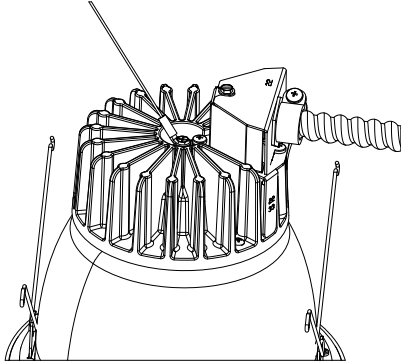

Figure 4
4. Tighten screw to secure. See Figure 4.